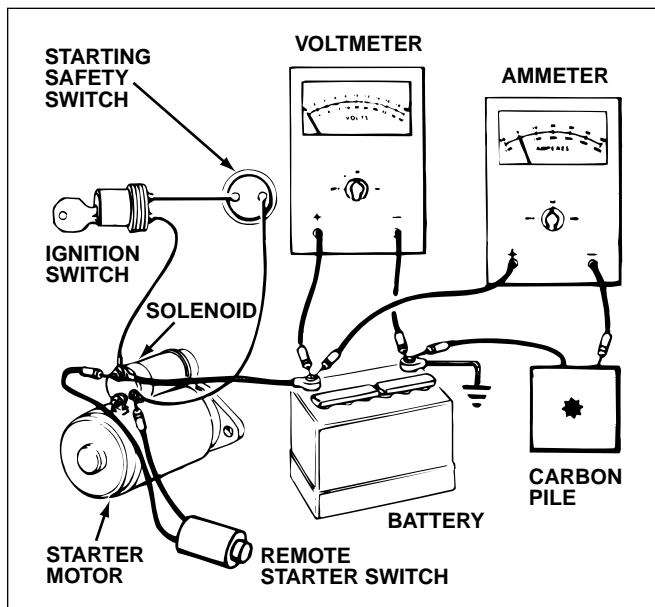

Fig. 5-17. Test meter hook up for performing a starter motor current draw test.
1. Refer to figure 5-17 for test connections